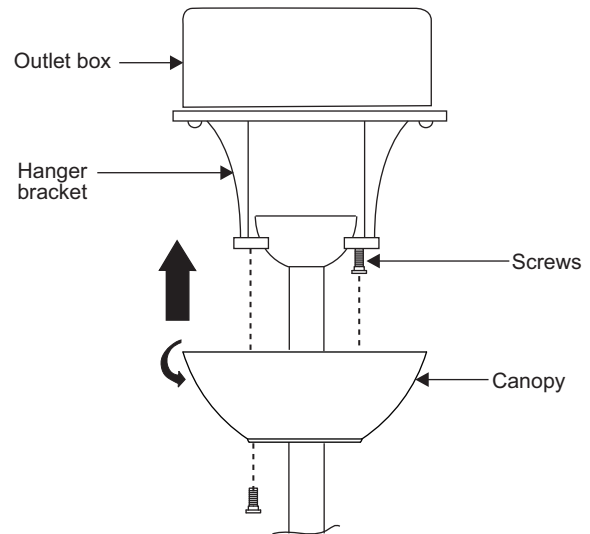

Figure 14
Step 2. Slide the canopy up to hanger bracket and place the key hole on the canopy over the screw on the hanger bracket, turn canopy until it locks in place at the narrow section of the key holes. (Fig. 14)